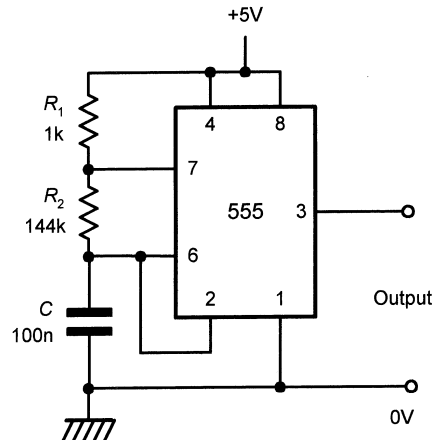

Figure 12.10 5 V 50 Hz square wave generator (see Example 12.4)
The complete circuit of the 5 V 50 Hz square wave generator is shown in Fig. 12.10.
- 12.5 Refer to the variable pulse generator circuit shown in Fig. 12.10. Identify the component(s) that: